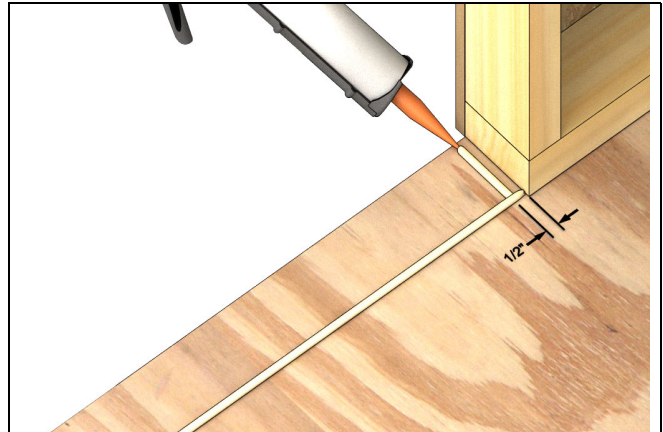

Figure 11
2. Apply a 3/8" (10) bead of sealant on the subfloor at the interior edge of the door opening. See Figure 11.